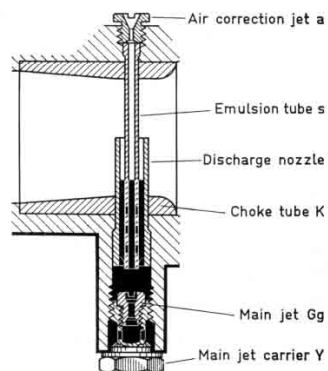

Fig. 26 Assembly No. 22
d) Jet Assembly No. 22 (fig. 26)